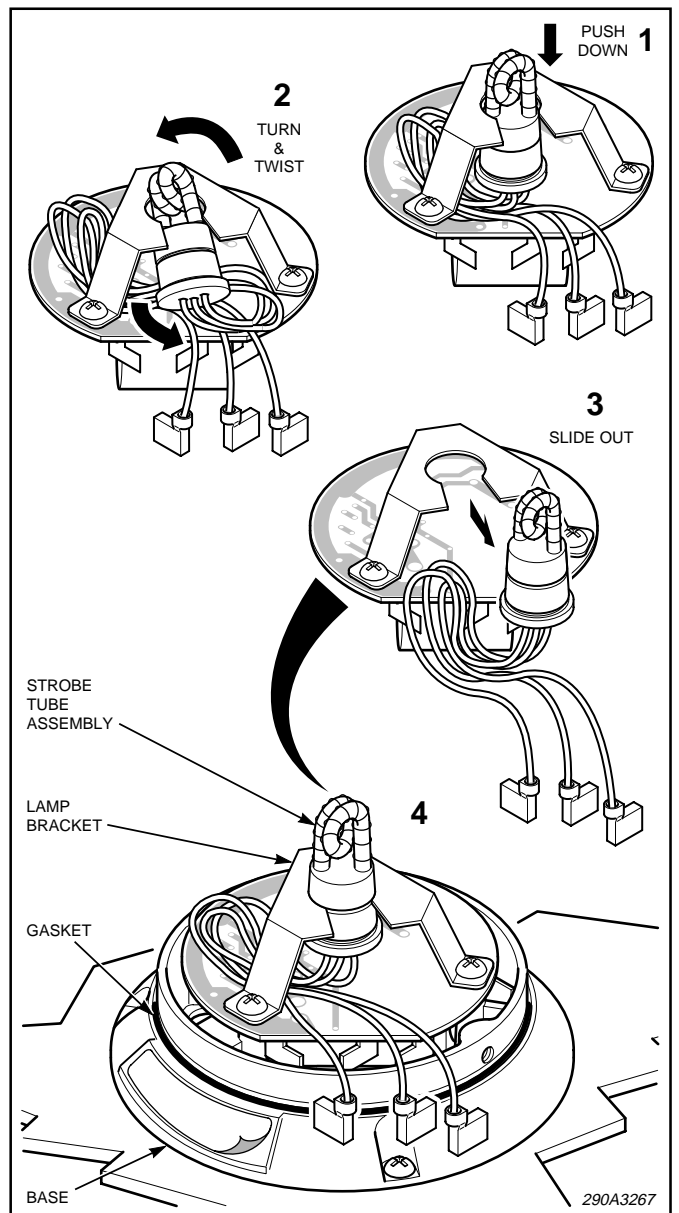

Figure 5.
4. See figure 5. Gently push the silicone rubber base of the strobe tube down toward the PC board, and then carefully slide it out through the slot in the metal bracket.
5. See figure 5. Slide the new tube through the slot into the round center of the bracket, and then push the tube up into its position by pressing the rubber base from the bottom.